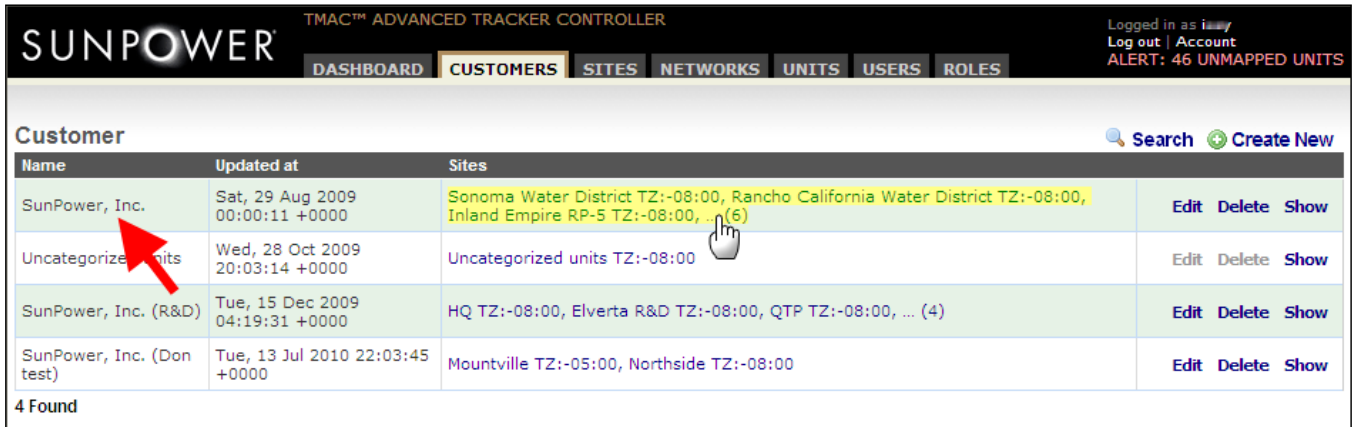

Fig. B13
3. To open the **Site for [Customer name]** window, click the site link under the **Sites** column for the customer row (Fig. B13).